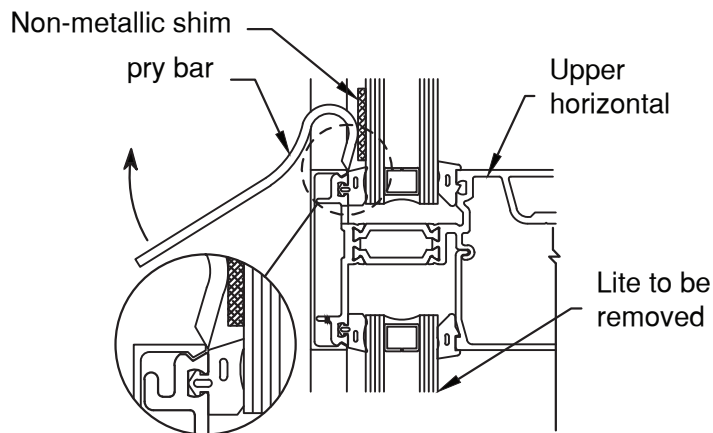

Figure 33
- D.2 WHEN REGLAZING FROM THE EXTERIOR. Carefully remove horizontal face covers surrounding the lite of glass to be deglazed. **SEE FIGURES 33**